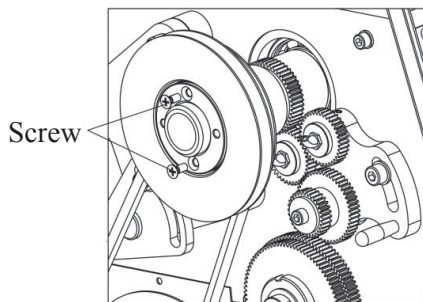

Figure 34
3. Remove the screw (see Figure 34)